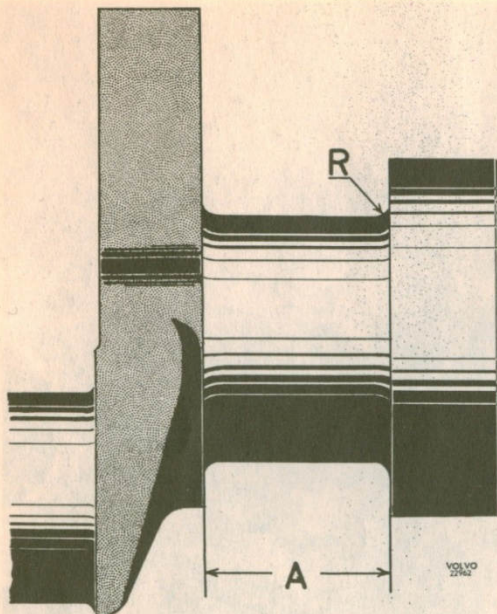

Fig. 1-55. Bearing journal
journals, see Fig. 1-55. The width (A) for the guide bearing is dependent on the size of the journal and should be ground to obtain the correct measurements. After grinding, the oil drilling openings should be carefully bevelled and all the bearing journals lapped with fine grinding compound to get the best surface texture. The crankshaft should then be washed. All the oil drillings should be cleaned particularly carefully to remove any traces of filings.